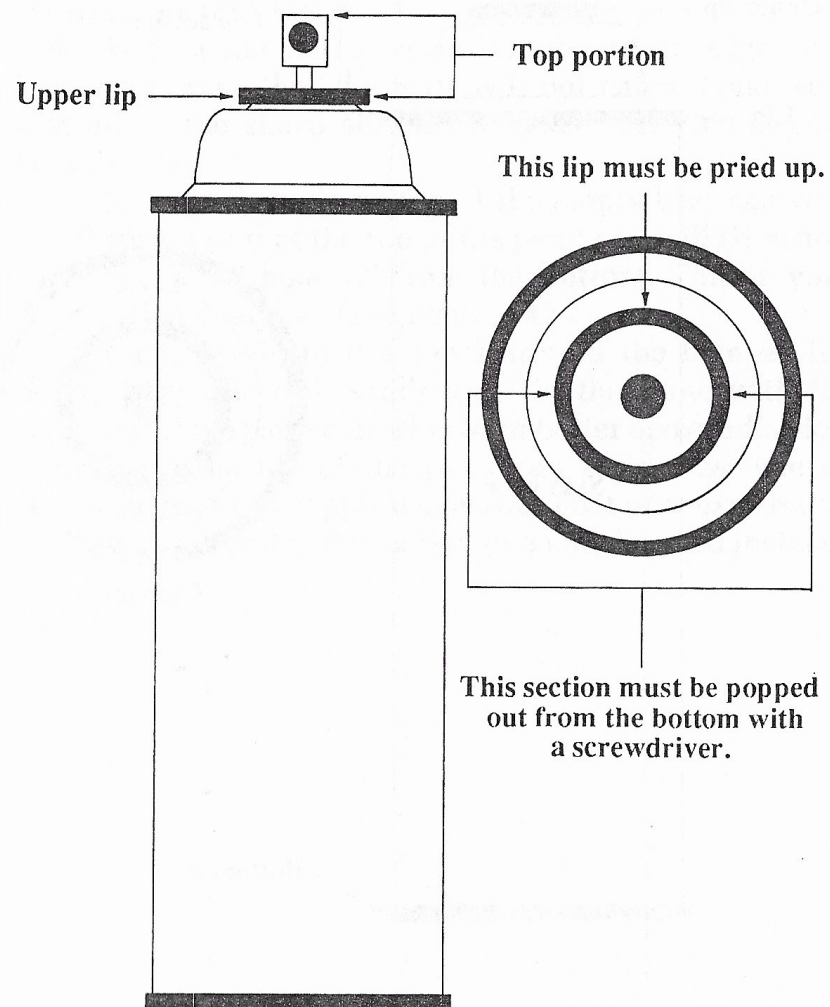

Figure 13
3. Follow step 4 from Advanced Model I for the third paint can. (See Figure 13.)